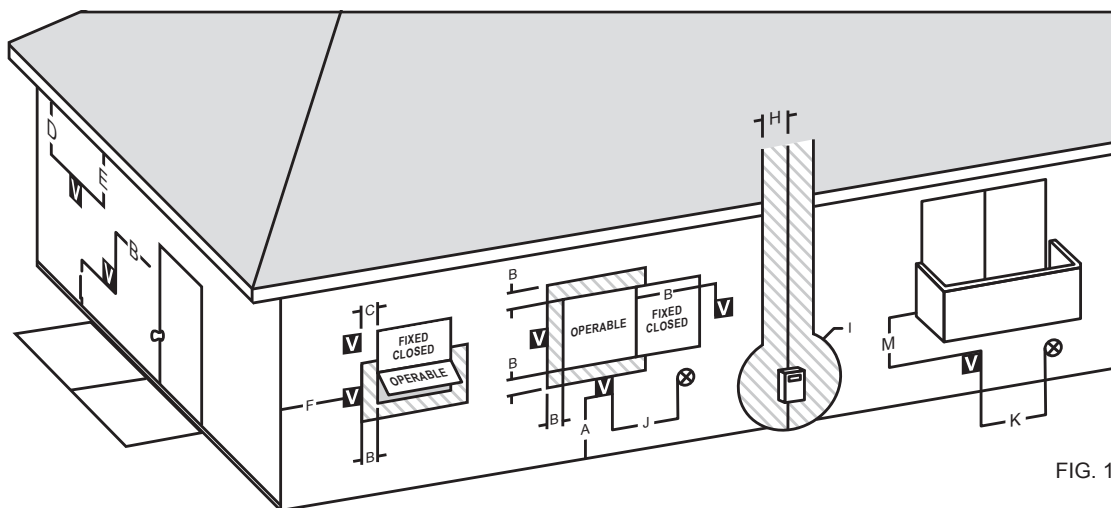

FIG. 1
5. The minimum clearance from the edge of the vent cap to any overhanging obstruction, perpendicular side wall, or corner of building is 12". (See Figure 1).
6. Vent cap must be located at least 9" from any opening that would allow combustion products to enter the building, windows, doors, etc., and 12" above the ground or shrubbery (See Figure 1).
- d) Check outside wall at this location for proper clearances around vent cap. (See Figure 1).